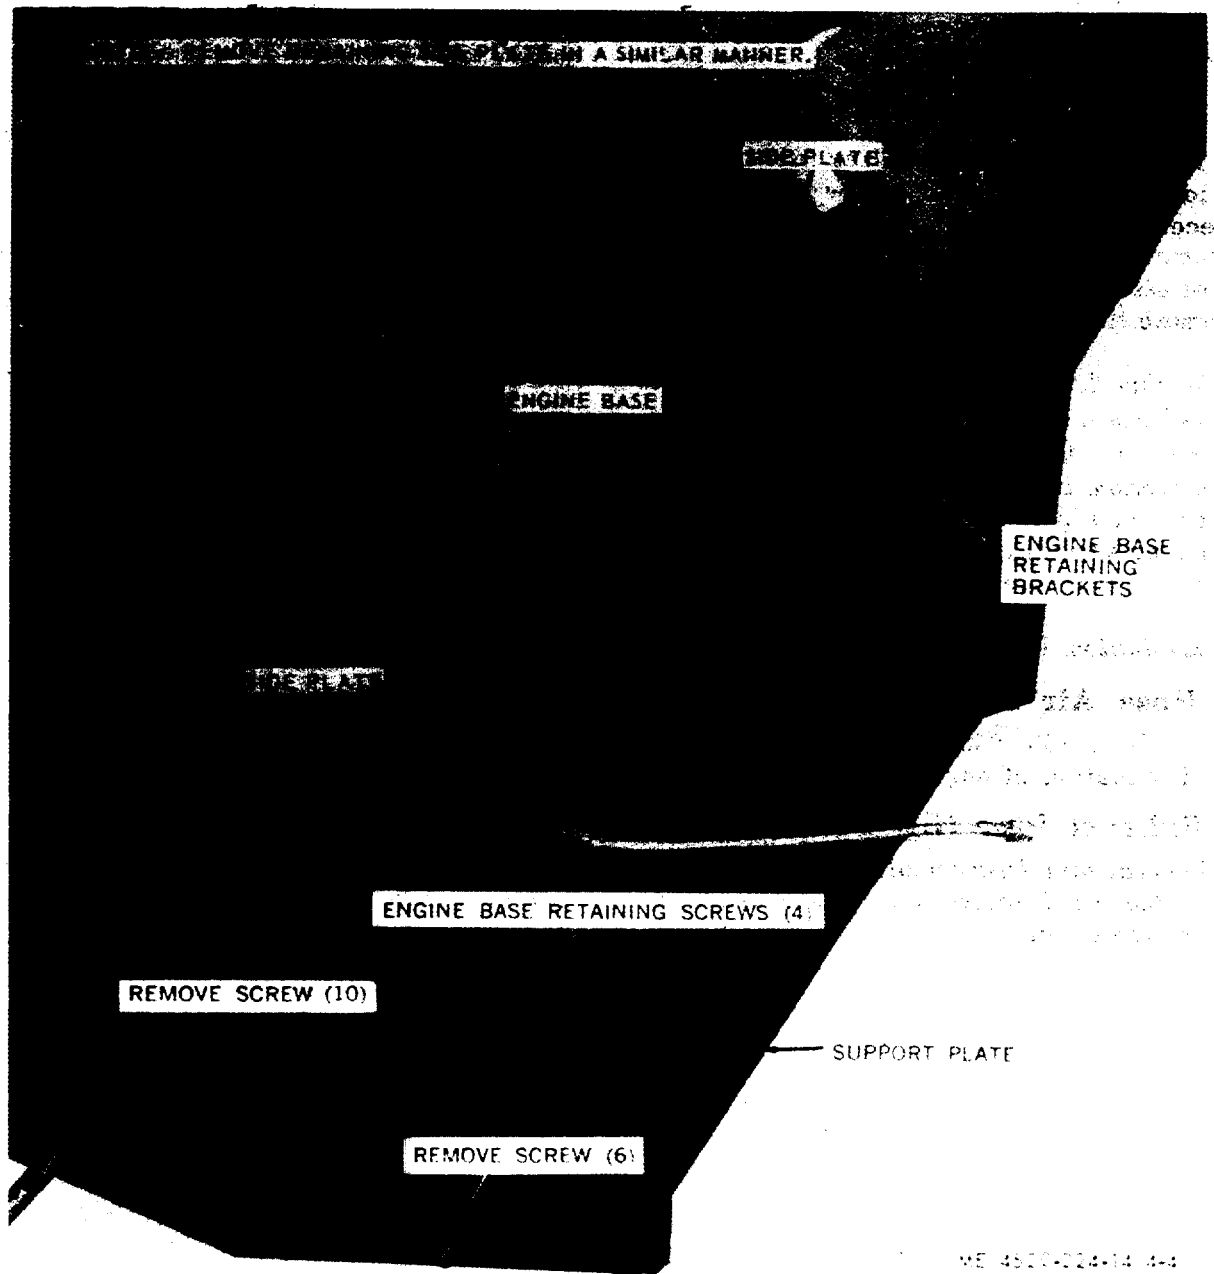

Figure 4-4. Engine base, removal and installation.
- (3) Remove the 4 screws which hold the engine mounting base. (fig. 4-4)
The support plates for the 12 inch duct assemblies is removed in the same manner as the engine base. Remove the six cap screws and drop the support plate. Installation is accomplished by reversal of this procedure. See figure 4-4. Service is accomplished by cleaning and painting. Replace unserviceable support plate.
4-28 Plates Engine Mounting, R.H./L.H. (Fig. 4-4).